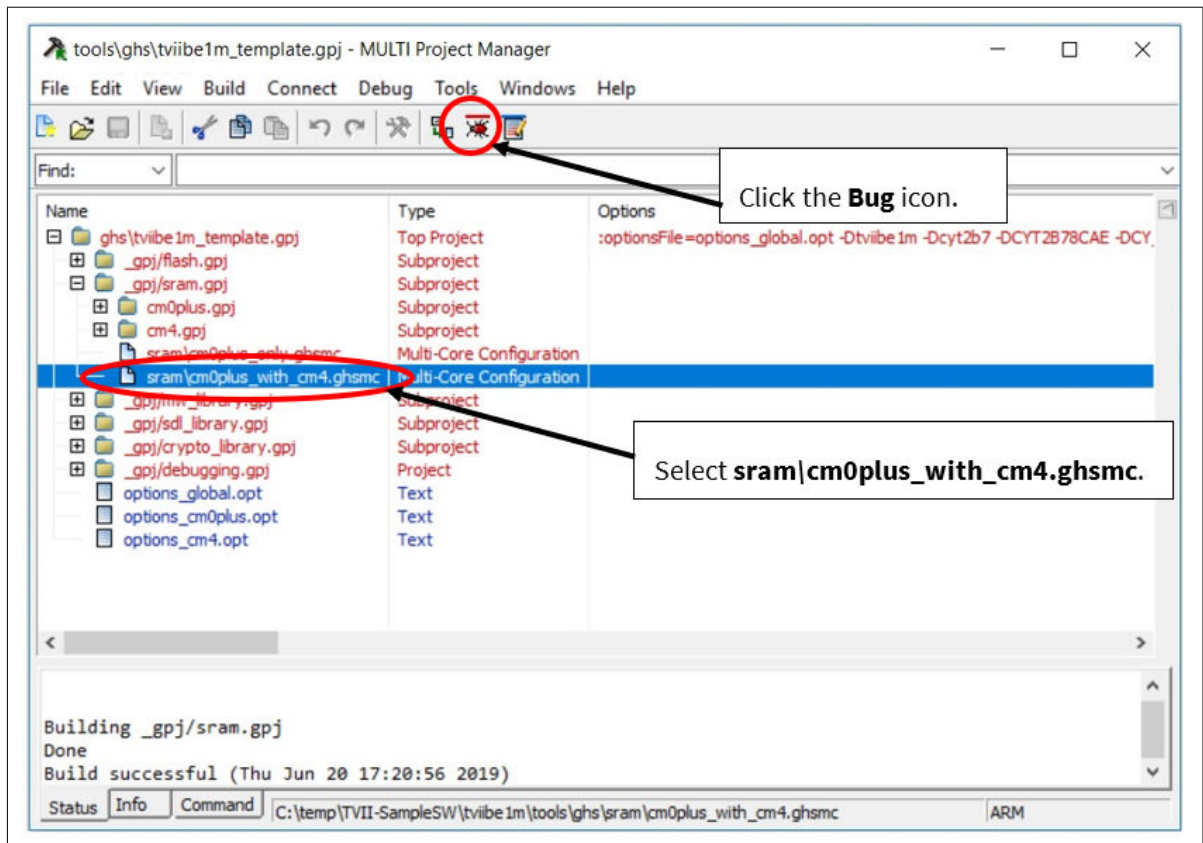

Figure 11 Debug the project of SDL project
1. For execution on the RAM, select sram\cm0plus_with_cm4.ghsmc and click the **Bug** icon as shown in Figure 11. Debugging of the program on the RAM begins.